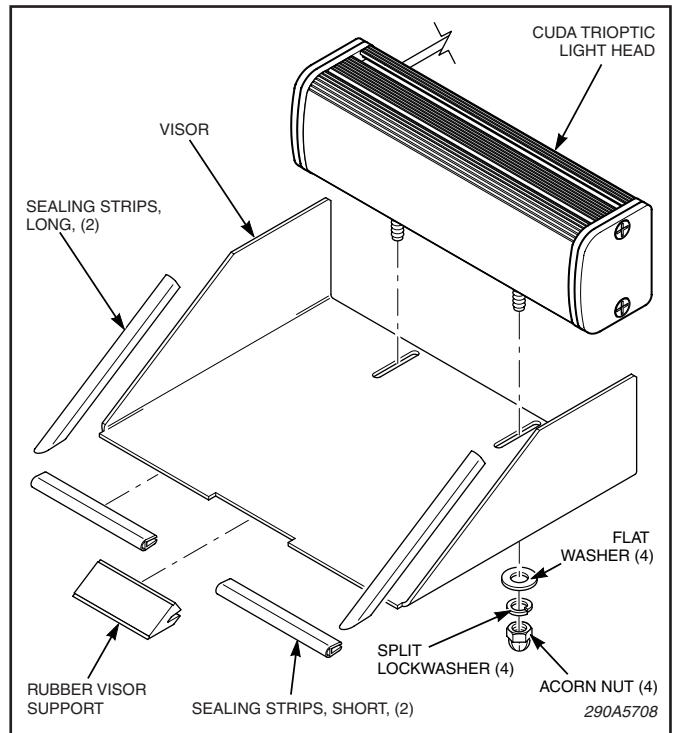

Figure 3.
7. See figure 3. Attach the visor to the Cuda TriOptic light head using two flat washers, two split washers, and two acorn nuts.